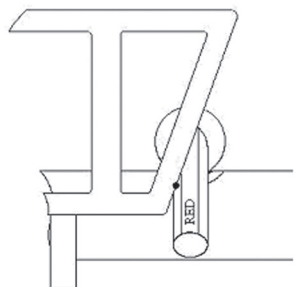

Figure 10b. Observe color of contact.
5. Slide the cone and cylinder towards the rail until it touches the rail or support and let the weight of the cone compress the mattress (figure 10b).